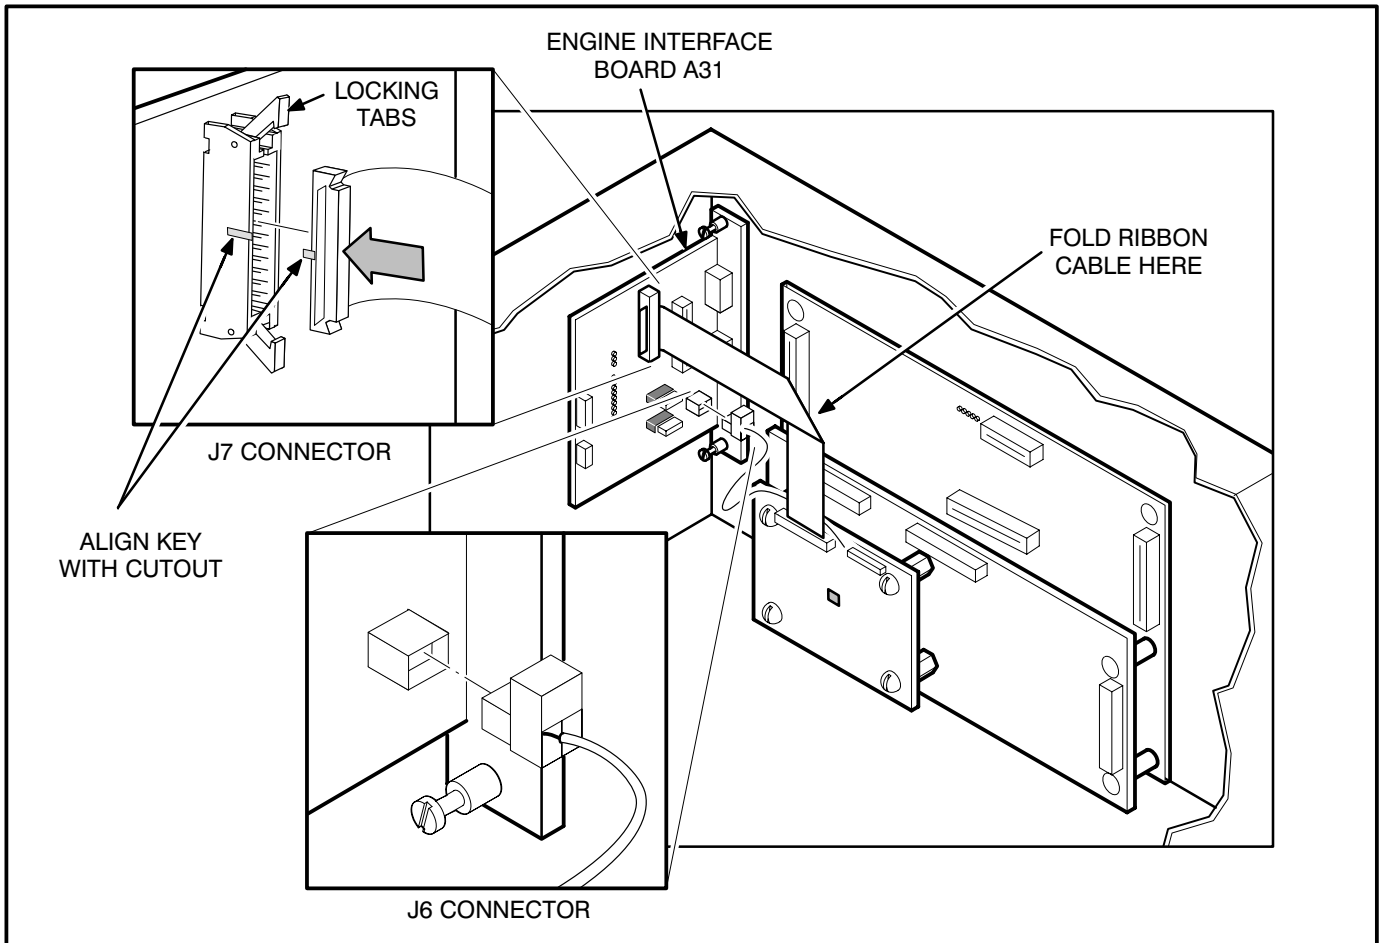

FIGURE 3-4. INSTALLING J6 AND J7 CONNECTORS
8. Orient the J6 harness connector as shown in Figure 3-4. Push the J6 plug securely into the connector on the engine interface board.
9. Spread locking tabs apart on the J7 connector. Fold the ribbon cable, as shown in Figure 3-4, align key on plug with socket cutout. Insert the J7 harness plug into the J7 connector on the engine interface board. Press in on the harness connector, at the location indicated by the arrow, until the locking tabs lock into place.